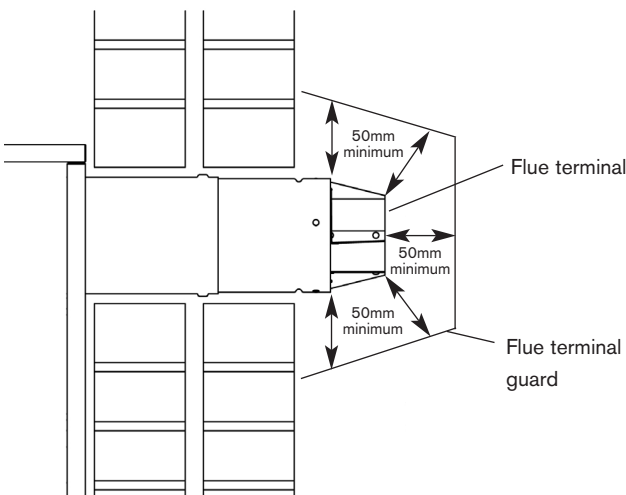

Fig. 3. Flue Terminal Guard
5.4. Where the flue terminal is fitted less than 2 metres above the surface to which people have access, fit a terminal guard. A suitable terminal guard is available from Worcester Heat Systems, Part Number 7 716 190 009, or alternatively a propriety terminal guard may be used provided it leaves at least 50mm clearance between the terminal and terminal guard as shown in Fig. 3.